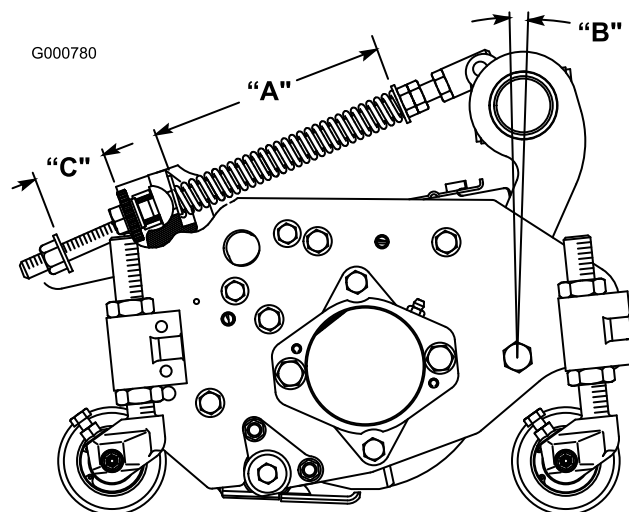

Figure 8
The Turf Compensation Spring (Figure 8), connecting carrier frame to cutting unit, controls the amount of fore-aft rotation available, as well as the amount of ground clearance in transport and turn around.
- Tighten lock nut on rear of spring rod until the gap (C) between rear of spring bracket and front of washer is 1 in. (25 mm) (Figure 8).
- Tighten hex nuts on front end of spring rod until the compressed length (A) of spring is 8 in. (203 mm) (Figure 8).
Note: When cutting rough or undulating turf, increase compressed length (A) of spring to 8-1/2 in. (216 mm) and gap (C) between rear of spring bracket and front of washer to 1-1/2 in. (38 mm) (Figure 8).